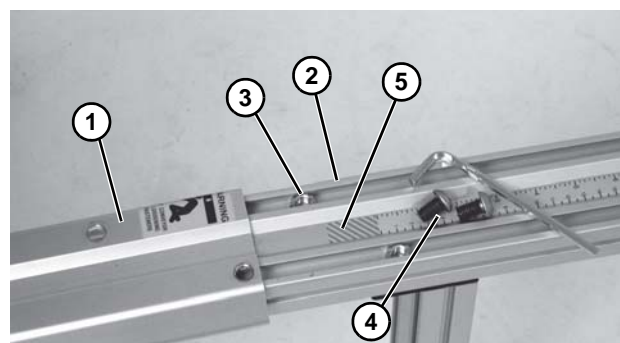

Figure 8
<p>Failure to secure screws (Figure 8, item 4) may cause conveyor sections to drop down causing severe injury.</p> <p>TIGHTEN SCREWS (Figure 8, item 4) AFTER ADJUSTMENT.</p>
7. Slide boot (**Figure 8, item 1**) onto stand leg (**Figure 8, item 2**). Align hex nuts (**Figure 8, item 3**) and boot holes and attach boot with button screws (**Figure 8, item 4**). Tighten button screws to 150 in-lb (17 N-m). Repeat for opposite leg.
<p>Red warning area (Figure 8, item 5) must be under boot (Figure 8, item 1) after assembly.</p>